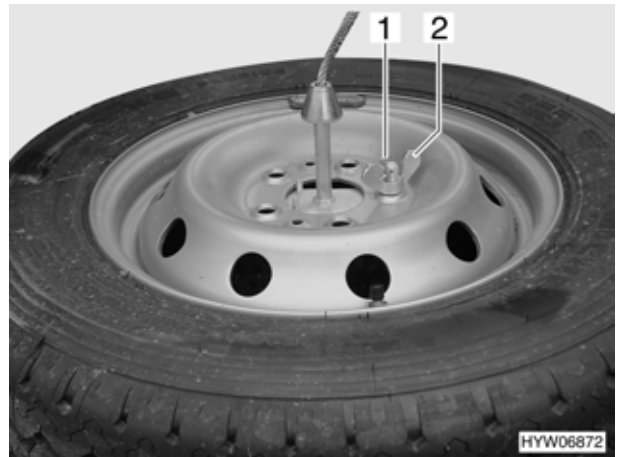

Fig. 183 Spare wheel
- Undo the securing splint (Fig. 183,1) and winged nut (Fig. 183,2) of the spare wheel holder.